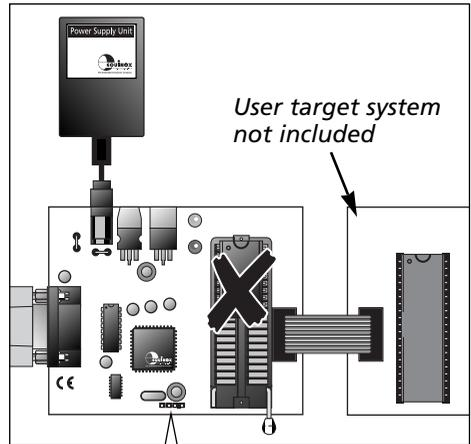

Figure 7
- 4 Connect the programmer to target system using the ISP cable supplied see fig: 7.